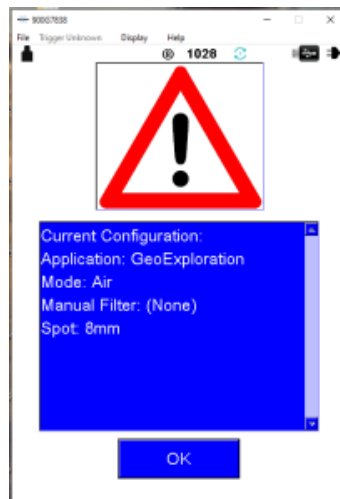

Figure 5. Configuration window when initializing the device.
6. A pop up message will appear after logging in that tells you the gun's configuration just click **O** **K** (Figure 5).